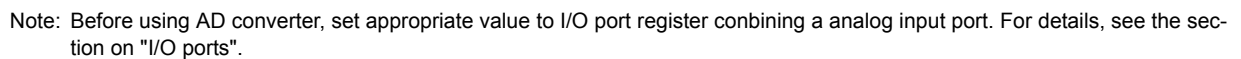

Figure 17-1 10-bit AD Converter
The circuit configuration of the 10-bit AD converter is shown in Figure 17-1.
- Set the AD conversion time using AD conversion time (ACK). For details on how to set the conversion time, refer to Figure 17-1 and AD converter control register 2.
- After setting up (1) and (2) above, set AD conversion start (ADRS) of AD converter control register 1 (ADCCR1) to "1". If software start mode has been selected, AD conversion starts immediately.